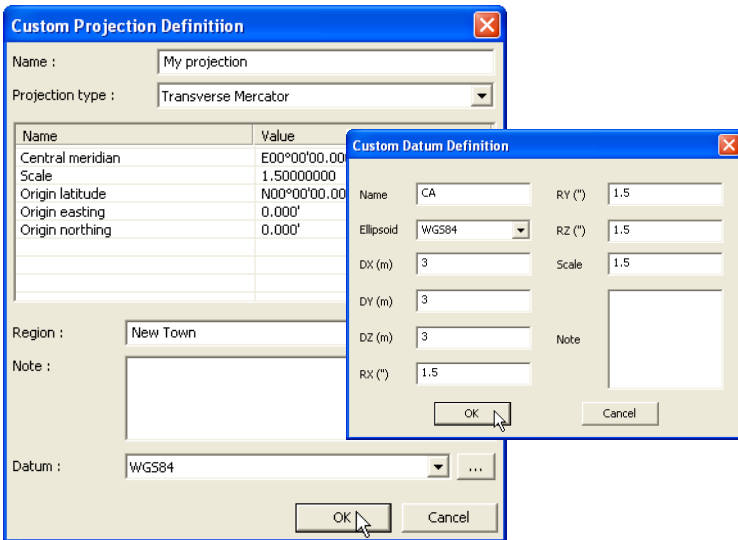

Figure 2-26. Create Custom Projection and/or Datum
2. On the **Custom Projection Definition** dialog box (Figure 2-26 on page 2-22), enter the following parameters to define the custom projection:
1. Press **OK** (Figure 2-26 on page 2-22), then browse to the location of the geoid to update the folder where 3D-Office will find the geoid file.
2. Press **Cancel** (Figure 2-26 on page 2-22) to open the file without the geoid. Note that the warning will continue to display each time the project is opened.